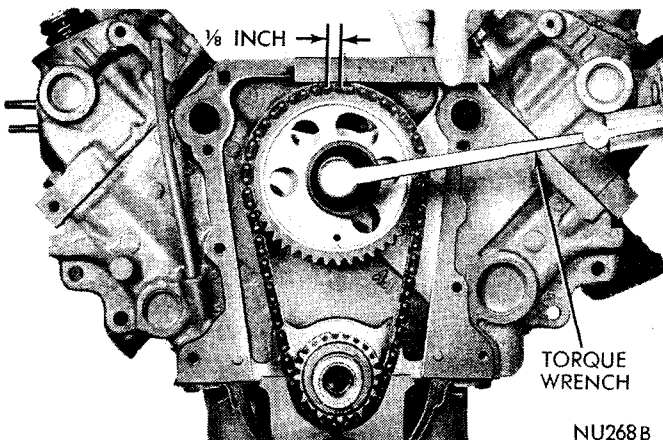

Fig. 21—Measuring Timing Chain Stretch
(2) Place a torque wrench and socket over camshaft sprocket attaching bolt and apply torque in direction of crankshaft rotation to take up slack; 30 foot-pounds (with cylinder head installed) or 15 foot-pounds (cylinder heads removed). **With a torque applied to the camshaft sprocket bolt, crankshaft should not be permitted to move. It may be necessary to block crankshaft to prevent rotation.**
(3) Holding a scale with dimensional reading even with edge of a chain link, apply torque in the reverse direction 30 foot-pounds (with cylinder heads installed) or 15 foot-pounds (cylinder heads removed) and note amount of chain movement (Fig. 21).
(4) Install a new timing chain, if its movement exceeds 1/8 inch.
(5) If chain is not satisfactory, remove camshaft sprocket attaching cup washer, fuel pump eccentric and remove timing chain with crankshaft and camshaft sprockets.